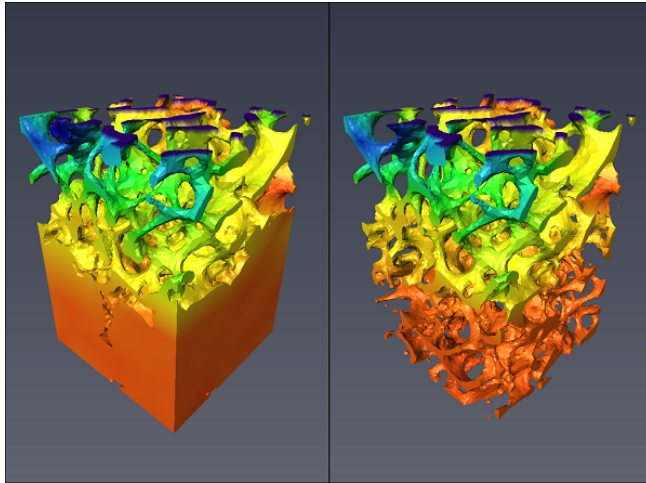

Figure 20.19: Tetragrid Visualisation (left - cement/bone ; right - bone)
- Load tetrahedral grid data `data/tutorials/xvolume/mcorrelation/BCI_reference3.labels.tetra.am` (Figure 20.19).